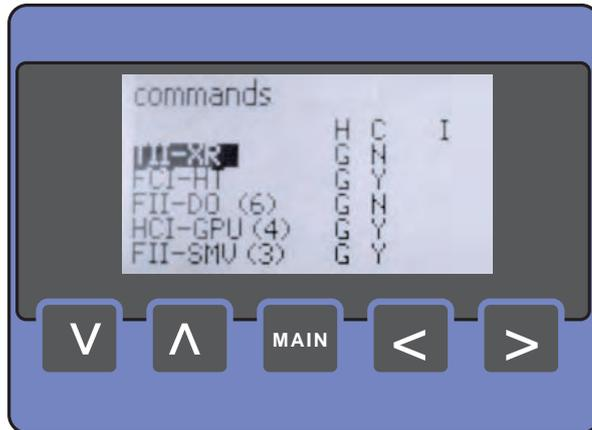

FIGURE 4-10
- The [\[commands\]](#) menu starts with the [\[board list\]](#) screen (see FIGURE 4-10).